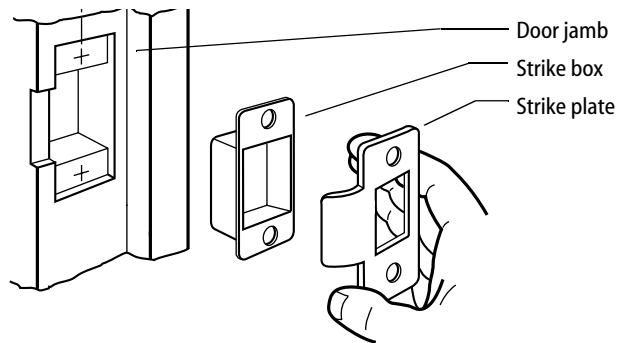

Figure 7 — Installing the strike box and strike plate
- Insert the strike box and secure the strike with the screws provided. See Figure 7.